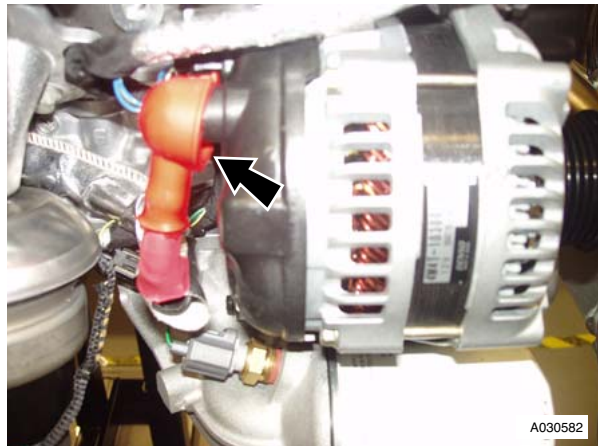

Figure 4
39. Remove the nut that attaches the battery cable to the alternator and remove the cable. (Refer to Figure 4).